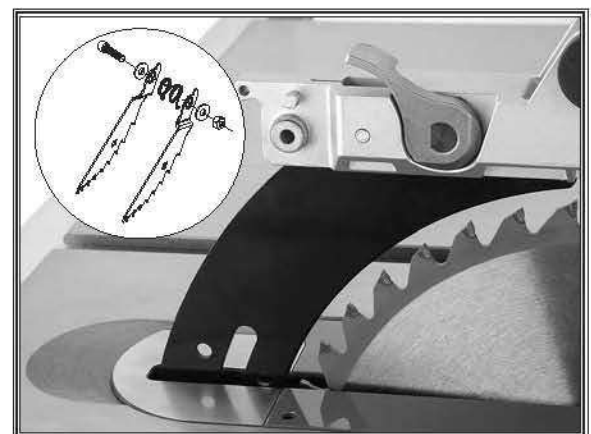

Figure 52. Pawls Removed.
2. Remove cap screw, locking hex nut, washers, pawls, and retaining spring from blade guard assembly (see Figure 52).